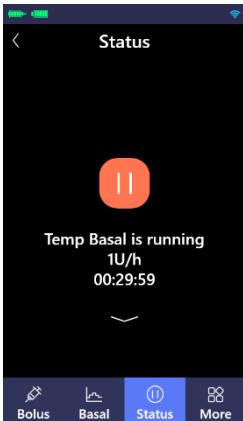
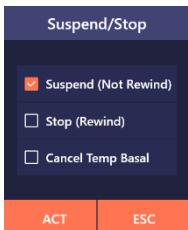

Figure 15.2
Figure 15.3
**(2)** After the delivery at the temp basal starts, the status interface will display the current temp basal and the remaining delivery time (as shown in Figure 15.2).
**(3)** If you need to suspend/stop/cancel the temp basal, please click "||" on the status interface (as shown in Figure 15.2), you can choose to suspend/stop/cancel the temp basal in the pop-up interface (as shown in Figure 15.3).